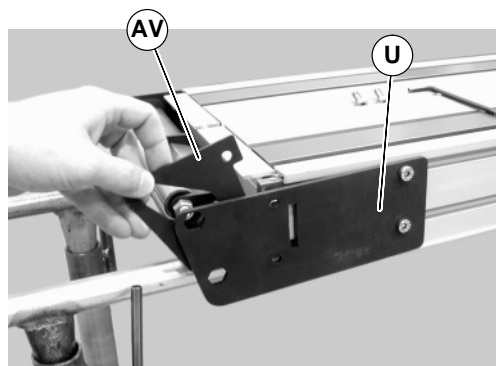

Figure 56
3. Remove the inner spacer (AV of Figure 56).